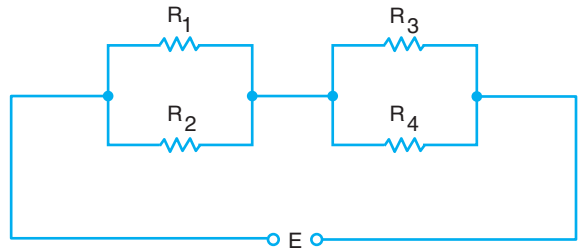

Figure 5-2 A series-parallel circuit.
Figure 5-2 illustrates another series-parallel circuit. Resistors R_1 and R_2 are in parallel with respect to each other. Resistors R_3 and R_4 constitute another parallel combination. The parallel combination of R_1 and R_2 is in series with the parallel combination of R_3 and R_4 .
2. Assume that each resistor shown in Figure 5-2 has a resistance of 100 ohms. Find the total circuit resistance. _____